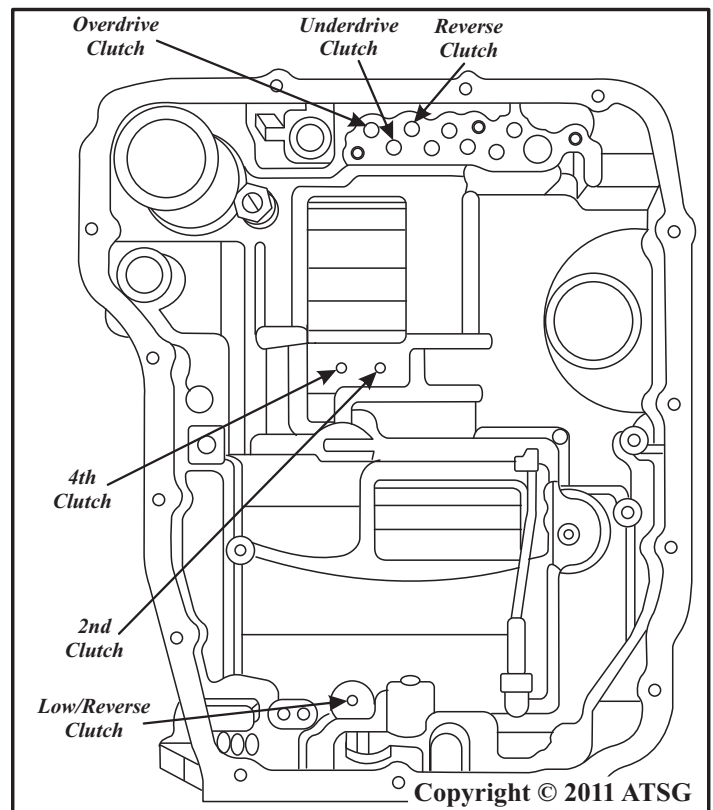

Figure 159
39. Air pressure test all clutch components at this time, before the valve body is installed, using Figure 159 as a guide.